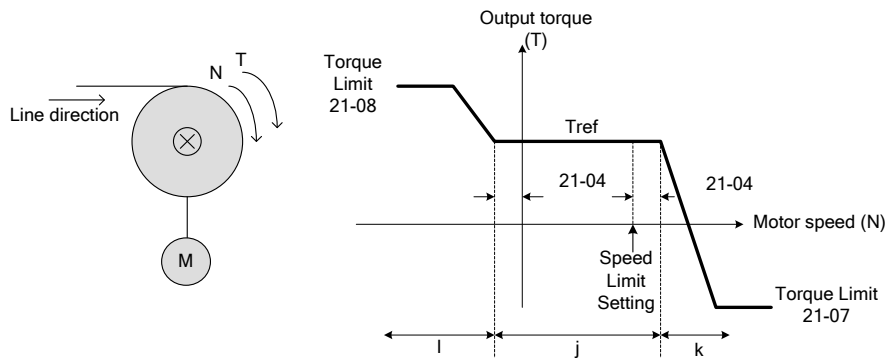

Figure 4.3.124 Winding operation
. The line speed (N) and motor torque (T) are in the same direction generated by the motor. Refer to Figure 4.3.124